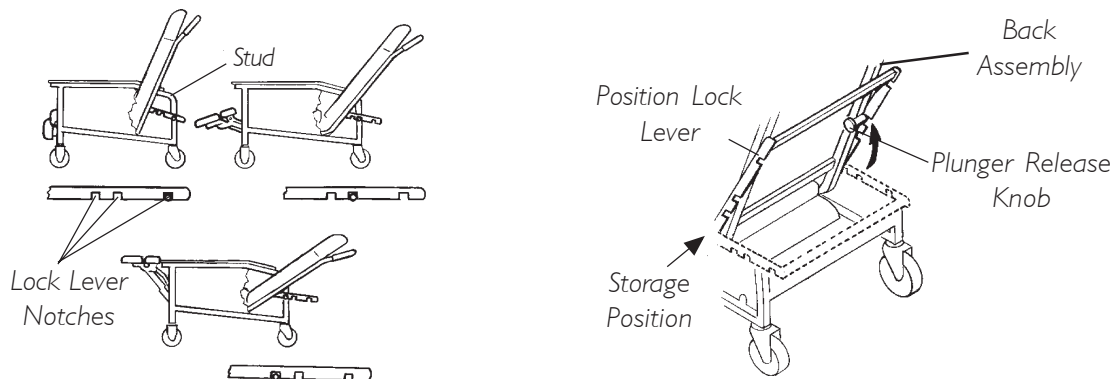

FIGURE 1 - RECLINING THE CHAIR USING THE POSITION LOCK LEVER - MODELS 6905A AND 6907A
RECLINING THE CHAIR WITHOUT USING THE POSITION LOCK LEVER - MODELS 6905A AND 6907A (FIGURES 1 AND 2)
1. Locate the plunger release knob on the back assembly. Refer to FIGURE 1.